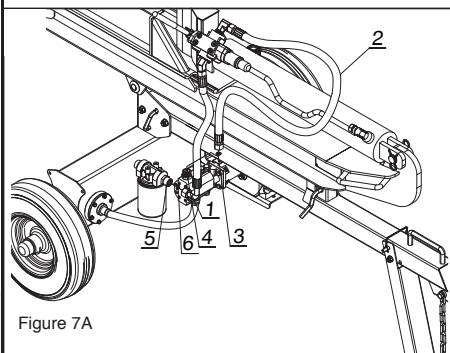

Figure 7A
3. Attach the return hydraulic hose (#1) to the connector (#5). (See fig. 7A)